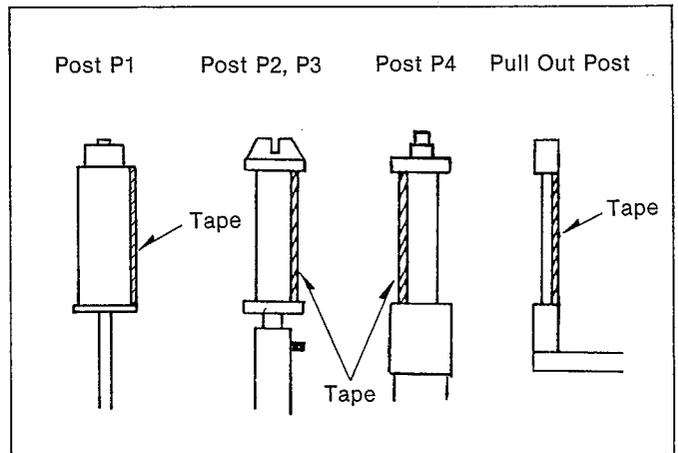

Fig. M18
7. Play back a normal cassette tape and make sure that the edges of the tape are not curling at the bottom or top end of the posts P1, P2, P3, P4 and pull out post as shown in Fig. M18.